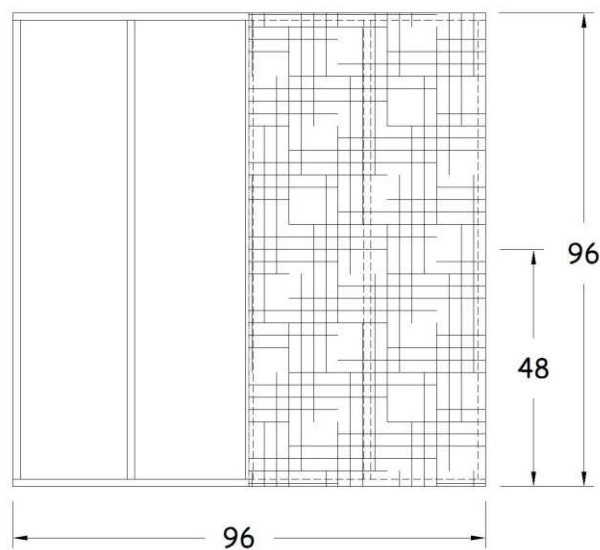

Figure 22-2. Floor Sheathing.
2. Cover half of the floor with one 4'x8' sheet of $\frac{3}{4}$ " treated plywood, flush with the outside edge of one of the end plates (see Figure 22-2). Secure each corner with one $\frac{2}{3}$ " collated nail. Then attach the rest of the plywood to the end plate, joists and between joists with $\frac{1}{8}$ " exterior screws, spacing them 12" apart.